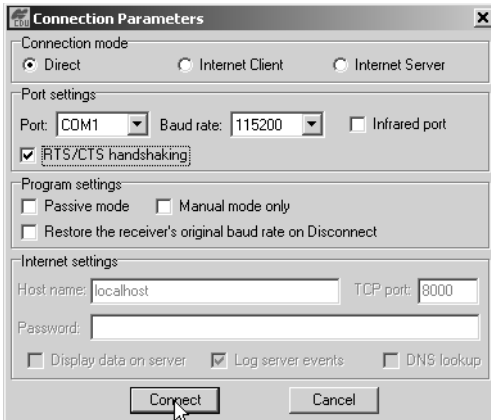

Figure 4-8. Connection Parameters – RTS/CTS Handshaking
2. On the Connection Parameters dialog box, enable RTS/CTS handshaking (Figure 4-8).